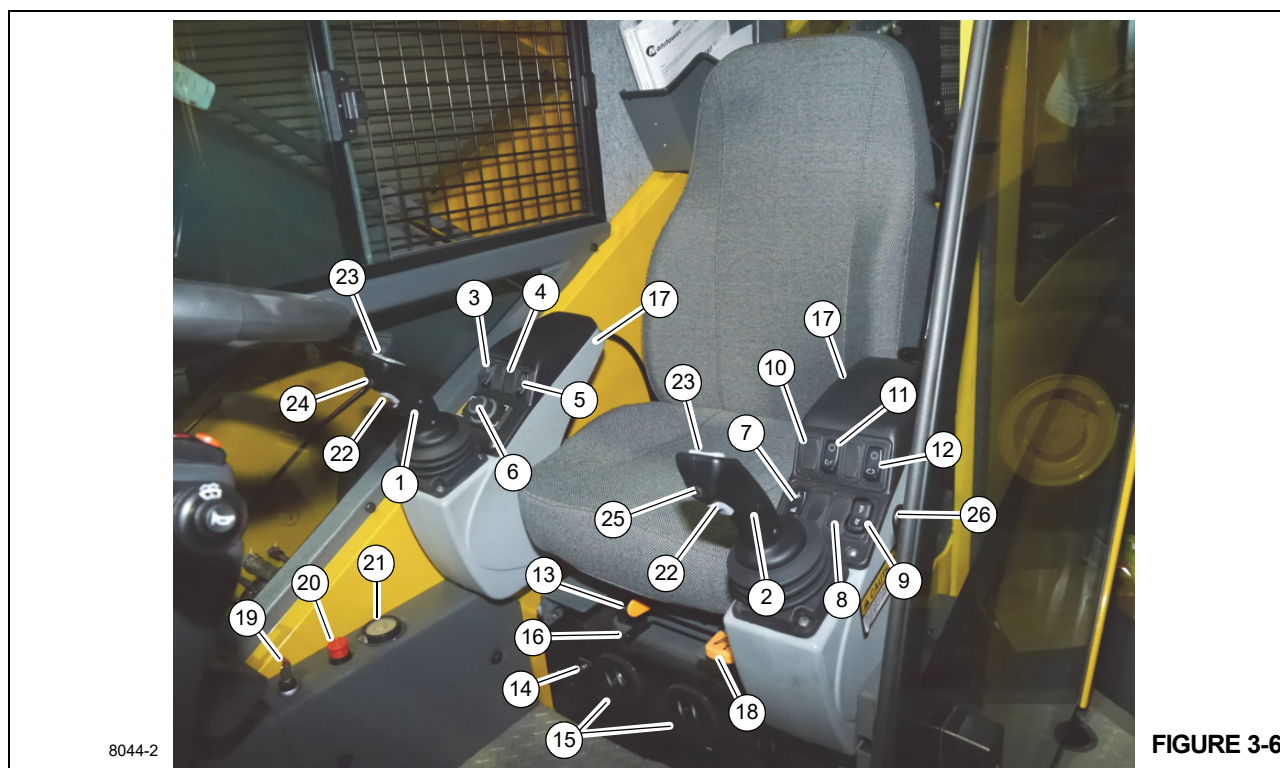

FIGURE 3-6
The Boom Lift/Main Hoist Control Lever (1) Figure 3-6 is located on the right armrest. The controller, when pushed to the right lowers the boom, or pushed left raises the boom.
The Swing/Telescope or Swing/Auxiliary Hoist (Swing/Tele or Swing/Aux) Control Lever (2) Figure 3-6 is located on the end of the left armrest. The lever controls swing and telescope functions when crane is not equipped with an auxiliary hoist.
The Main Hoist Enable Switch (3) Figure 3-6 is a momentary switch that is located on the right armrest. Press once to enable hoist; press again to disable hoist. Pressing the switch twice rapidly enables hoist at high speed. Pressing once and holding the switch for about 2 seconds also enables high speed.
The Boom Up Bypass Switch (4) Figure 3-6 is a momentary two-position rocker switch that is located on the right armrest. While lift function is enabled and in a RCL lockout condition, pressing and releasing the Boom Up Bypass Switch will enable boom lift up.
The Lift Function Enable switch (5) Figure 3-6 is a momentary switch that enables boom up and boom down.
The Jog Dial Control (6) (Figure 3-6) is located on the right arm rest. It selects and chooses functions on the screen(s) to navigate the Crane Control System.
The Outrigger Function Enable Switch (7) Figure 3-6 allows the operator to switch between extension/retraction of outriggers and raising/lowering of the jacks. Press and hold switch to force the lower screen display to change to the outrigger page.
The Differential Lock Switch (8) (Figure 3-6) is located on the left arm rest. It engages the differential lock function for additional traction when Four Wheel Drive is selected. It can be activated for a maximum of 30 seconds at a time.
The Rear Steer Control Switch (9) (Figure 3-6) is a three-position, spring centered to off, rocker switch, located on the left armrest. Press bottom of switch to actuate a control valve to turn rear wheels to the left, causing crane to turn to the right. Pressing top of switch actuates a control valve to turn rear wheels to the right, causing crane to turn to the left. When wheels are not centered, the Wheels Not Centered icon on the CCS Operating Display illuminates. Releasing the switch causes it to return to the center off position.
The Auxiliary Hoist Enable Switch (10) (Figure 3-6) is located on the left arm rest. It enables the Auxiliary Hoist and sets the high speed the same as the Main Hoist Enable Switch does for the Main Hoist.
The Boom Telescope Enable Switch (11) (Figure 3-6) is located on the left arm rest. It enables the boom telescoping function for the optional Telescope Control Foot Pedal, or for the Control Lever (joystick) if there is no auxiliary hoist.
The Swing Enable Switch (12) (Figure 3-6) is located on the left arm rest. This two-position rocker switch (On/Off) is used to control a hydraulic valve that directs a regulated flow of pressure to and from the swing brake. When the joystick
Moving the Seat Slide Lever (13) (Figure 3-6) slides only the seat forward or backward.
The crane cab Air Conditioner/Heater Climate Unit (14) Figure 3-6 is located in the cab under the driver's seat. The vents (15) are part of the climate unit and can be adjusted to direct the flow of air.
Moving the Seat Frame Slide Lever (16) (Figure 3-6) slides the seat and armrests forward or backward.
Left and right armrest and armrest controls can be adjusted using the adjustment buttons (17) (Figure 3-6) found under the rear of the armrest. Press the button to rotate the entire armrest; release button at the desired position.
To adjust seat height, lift height adjustment lever (18) Figure 3-6 and adjust seat as needed.
The Limit Bypass Switch (19) (Figure 3-6) is a three-position, momentary type key switch. In an emergency situation only, turn switch clockwise or counterclockwise and hold to bypass the different limiter systems on the crane.